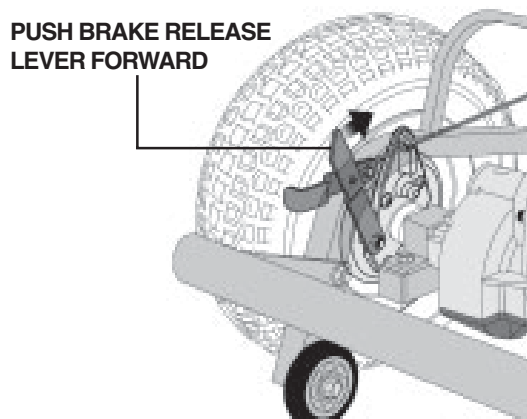

Figure 20. Brake Release Lever
8. Disconnect the handbrake cable from the rear hub by pushing forward and holding the brake release lever with your thumb. See figure 20. Lift the cable release hook free of the peg and slide the handbrake cable free of its slot on the brake mount. See figure 21. Move the cable safely out of the way.